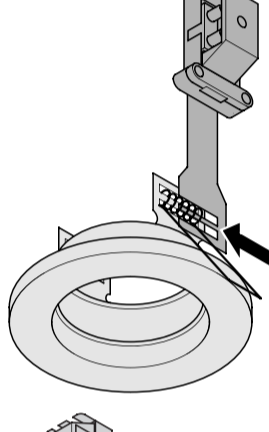
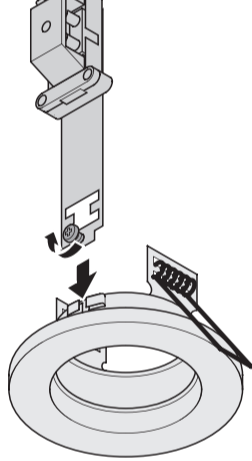
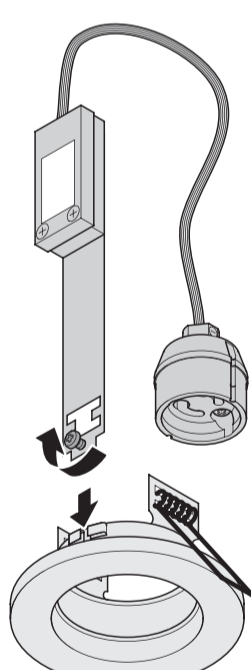

Fig. 1
Fig. 2
Fig. 3
Low-voltage strain relief (Figures 1 and 2):
High-volt strain relief (Fig. 3):
1. Insert strain relief in spring coil of lamp (see Fig. 1) or insert strain relief in rails and fix into place with screw (see Fig. 2 and Fig. 3).